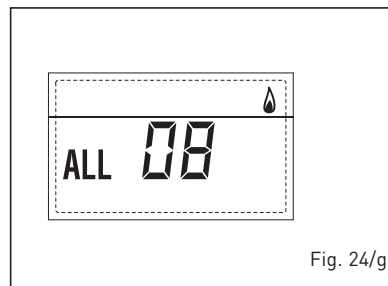

Fig. 24/g
– AUXILIARY SENSOR ANOMALY ALARM 10 (fig. 24/l)